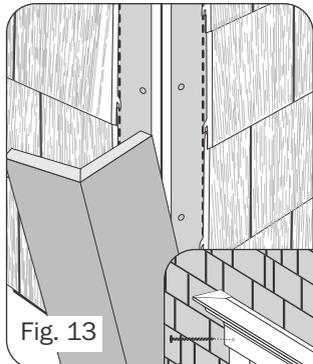

Fig. 13
- Install the panel securing it by placing nails along the cut edge of the panel approximately every 16”. The head of the nails will hold the panel back to the wall and the shaft of the nail will keep the panel from raising and becoming unlocked from the panel below it (Fig 12). Pin each panel in place by placing one nail through the panel itself toward the middle of the panel (Fig 13).